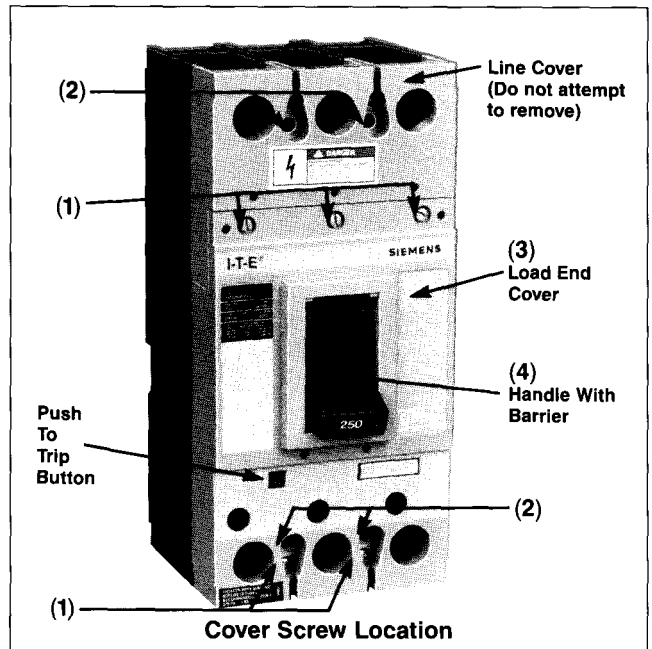

Figure 1
- D. Replace handle with barrier, load end cover and five cover screws (recommended torque 14 in. lb.) and mounting screws if mounted (Figure 1).